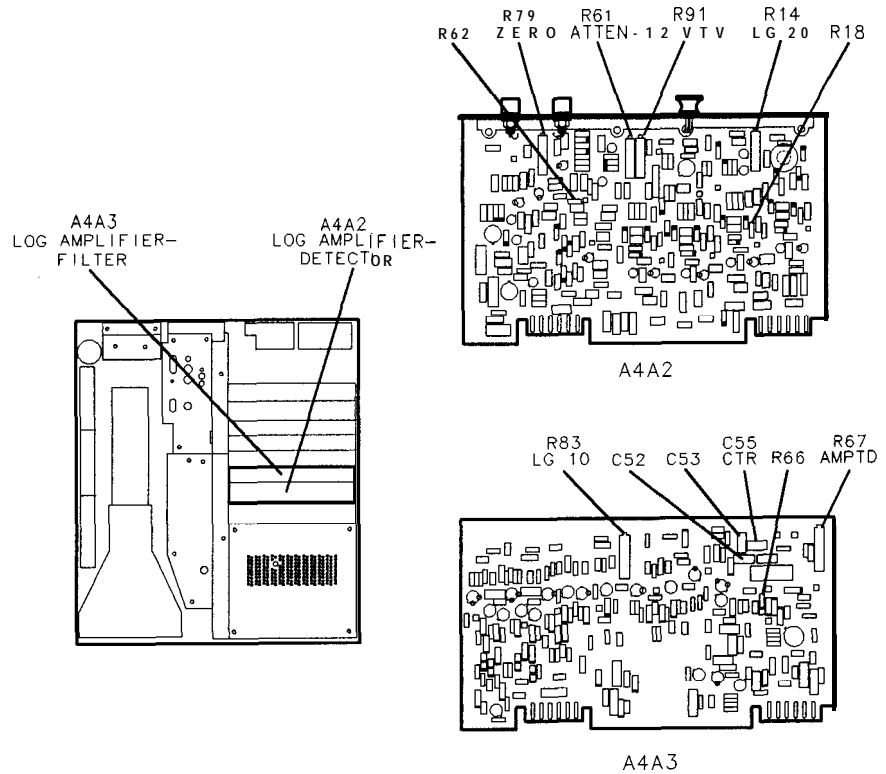

Figure 3-34. Location of Log Amplifier Adjustments
5. Check A4A2R79 ZERO for a DVM indication of 0.0000 f0.0005 V dc. See Figure 3-34 for location of adjustment. If A4A2R79 ZERO requires adjustment, perform Adjustment Procedure 6, "Video Processor Adjustment" before continuing.
8. Adjust A4A3C55 CTR for maximum DVM indication. See Figure 3-34 for location of adjustment. If A4A3C55 is at an extreme of its adjustment range (fully meshed, maximum capacitance, or unmeshed, minimum capacitance), increase or decrease value of A4A3C52 and A4A3C53. Refer to Table 3-3 for range of values.
11. Adjust A4A3R67 AMPTD for DVM indication the same as that noted in step 9 ± 0.0005 V dc. See Figure 3-34 for location of adjustment. If unable to adjust A4A3R67 AMPTD for proper indication, increase or decrease value of A4A3R66. (If A4A3R67 is fully counter-clockwise, increase the value of A4A3R66.)
18. Adjust A4A2R91 -12 VTV for DVM indication of +500 ± 1 mV dc. See Figure 3-34 for location of adjustment.
20. Adjust **A4A2R61 ATTEN** for DVM indication of + 1.000 fO.OOO1 V dc. See Figure 3-34 for location of adjustment. If unable to adjust **A4A2R61 ATTEN** for proper indication, increase or decrease value of **A4A2R62**. (If **A4A2R61** is fully clockwise, increase the value of **A4A2R62**.) Refer to **Table 3-3** for range of values.
25. Adjust **A4A3R83 LG10** for DVM indication of + 1.000 fO.O10 V dc. See Figure 3-34 location of adjustment. If unable to adjust **LG10** for proper indication, increase or decrease value of **A4A3R54**. Refer to **Table 3-3** for range of values.
28. Adjust **A4A2R14 LG20** for DVM indication of + 1.000 fO.O10 V dc. See Figure 3-34 for location of adjustment. If unable to adjust **LG20** for proper indication, increase or decrease value of **A4A2R18**. Refer to **Table 3-3** for range of values.
6. Set step attenuator to 120 dB. DVM indication should be 0.0000 f0.0005 V dc. If DVM indication is out of tolerance, adjust **A4A2R79 ZERO** on A4A2 Log Amplifier-Detector. See Figure 3-34 for the adjustment location.